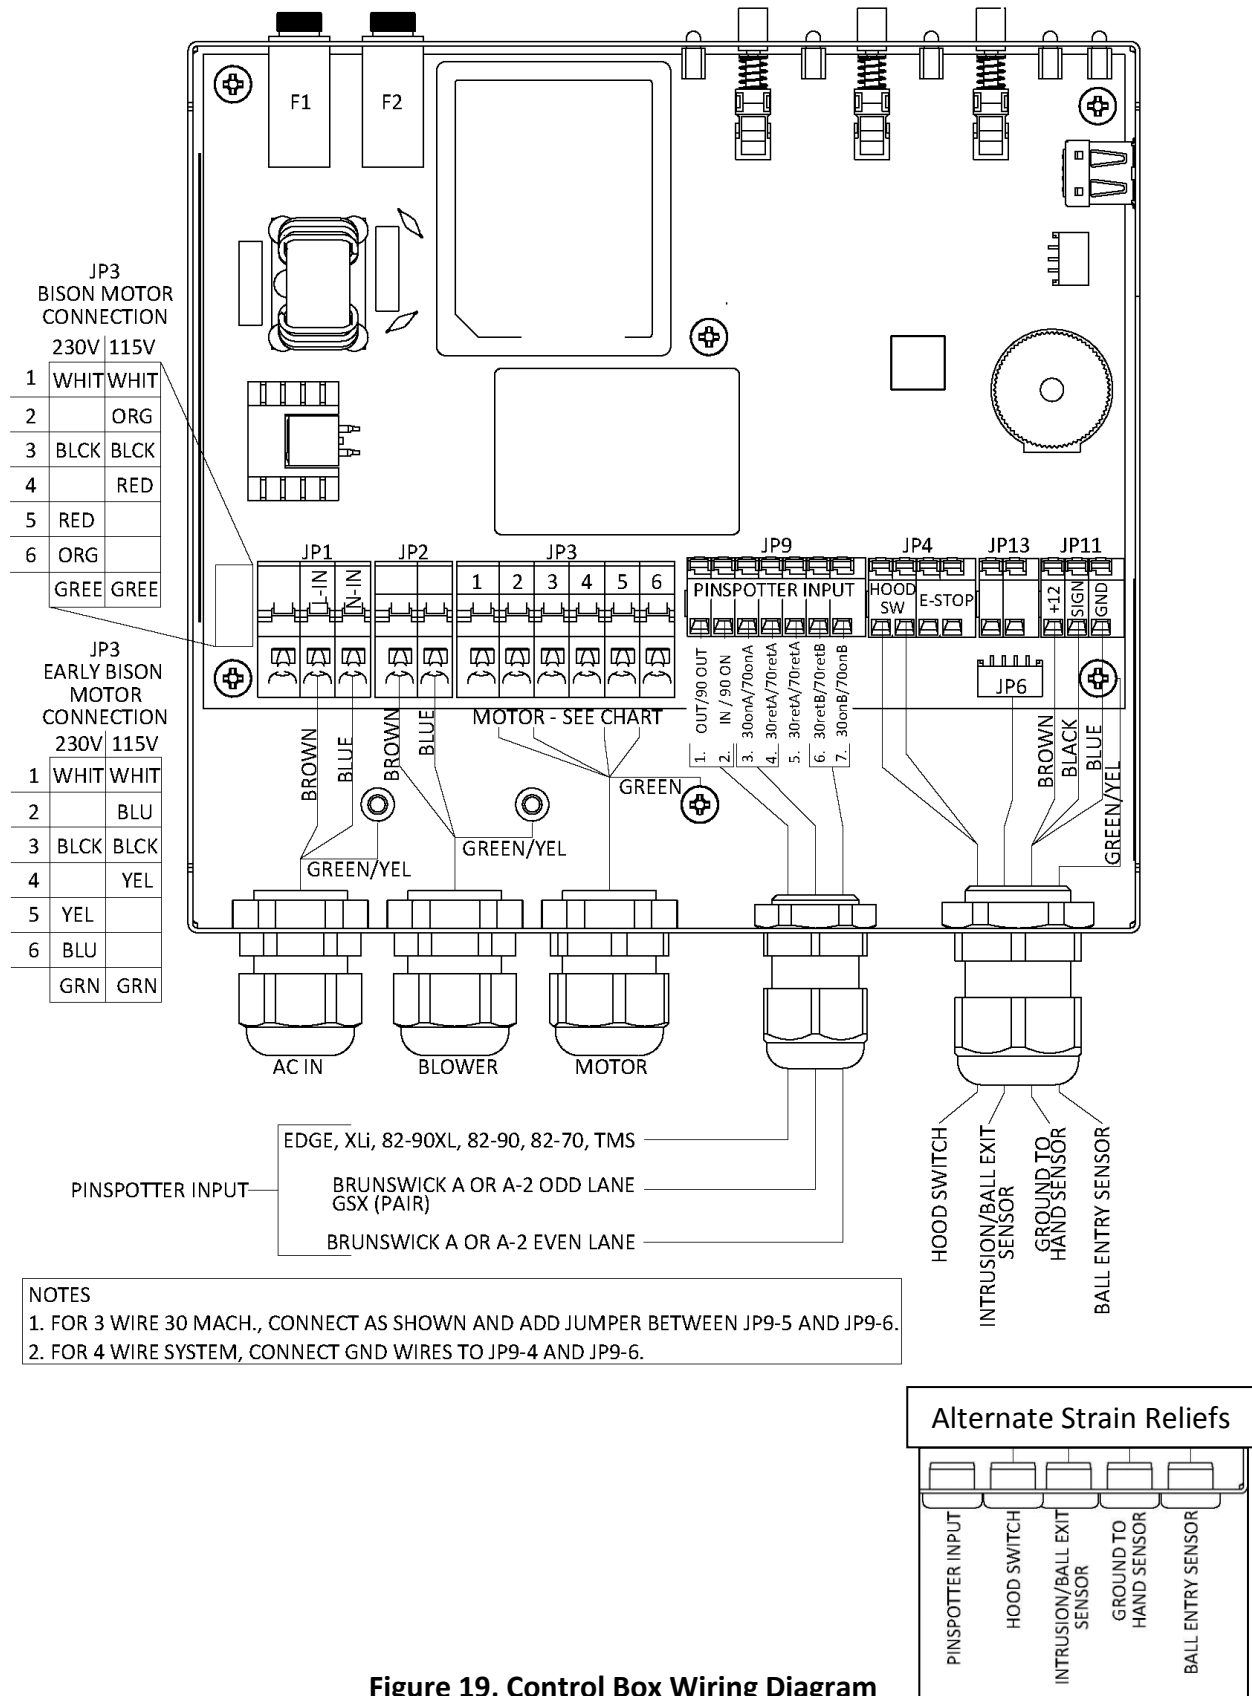

Figure 19, Control Box Wiring Diagram
4. Route the power supply cable to the “AC IN” location of the control box and secure with the appropriate strain relief for cable or conduit. See Figure 19.
7. Connect the incoming AC power conductors to **JP1** terminals L-IN (L1) and N-IN (L2). Refer to the table below and Figure 19.
8. Route the blower cable into the control box (see Figure 19).
11. Route the motor cable to the lift motor location on the controller enclosure. Pass the cable through the cable restraint, but do not tighten the cable restraint. See Figure 19.
13. Connect the conductors per wire color to terminal **JP3** as shown in Figure 19. Connection information is also shown on the exterior of the motor. Verify the connections are correct for the line voltage (115 or 230) used.
15. Connect the pinspotter's control wires to junction block **JP9** as shown in Figures 19 and 20.
17. Connect the conductors to **JP4 HOOD-SW** terminals. The connection position does not depend on the color of the wire. See Figure 19.